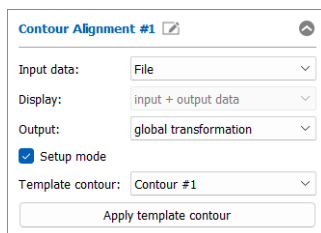

Fig. 5.9: Contour alignment – Settings in setup mode
- Insert the "Contour Alignment" program. The setup mode of the program is activated automatically after it has been inserted. You also may activate the setup mode afterwards with the "Setup mode" check box (see Fig. 5.9)